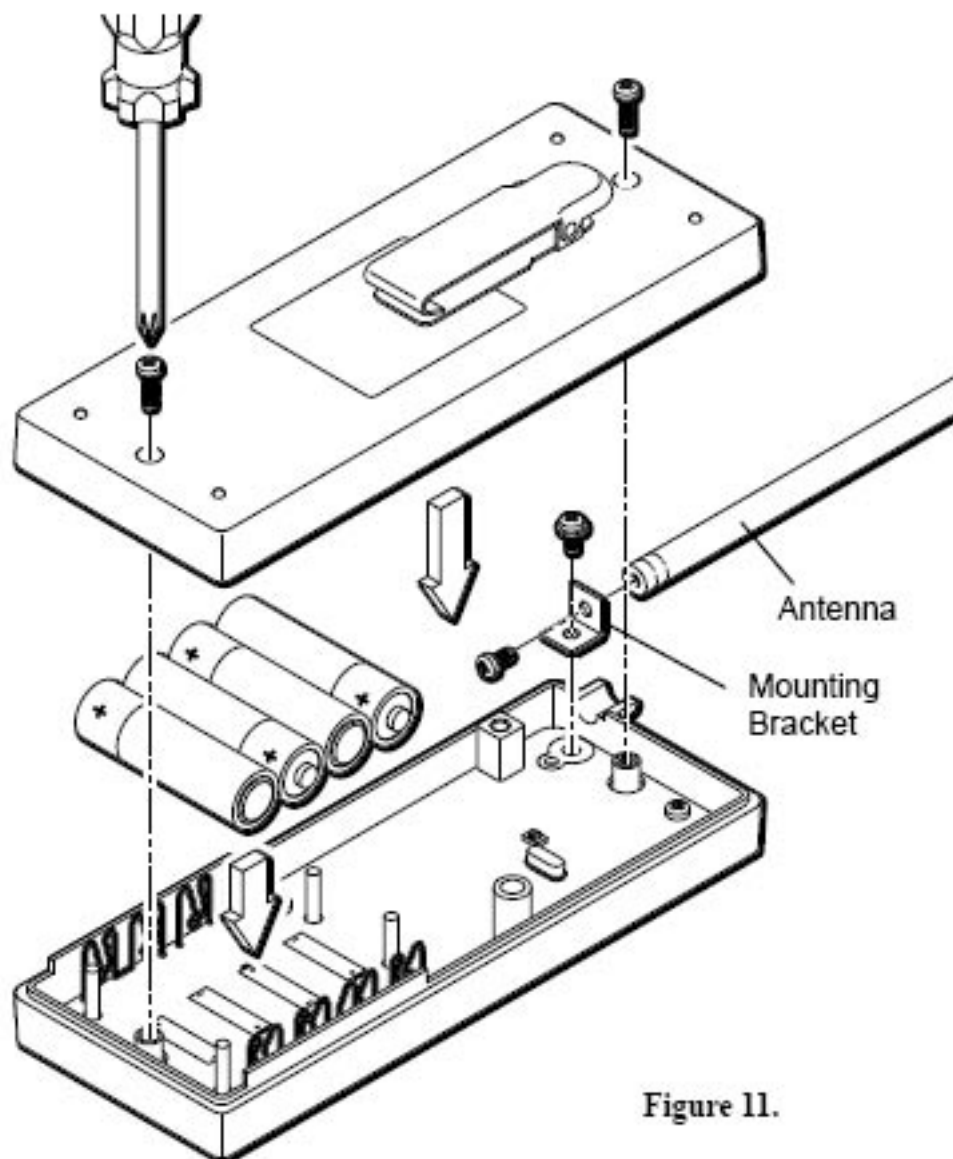

Figure 11.
- 2) **PREASSEMBLE THE ANTENNA** to the mounting bracket with the screw provided, as shown in Figure 11..